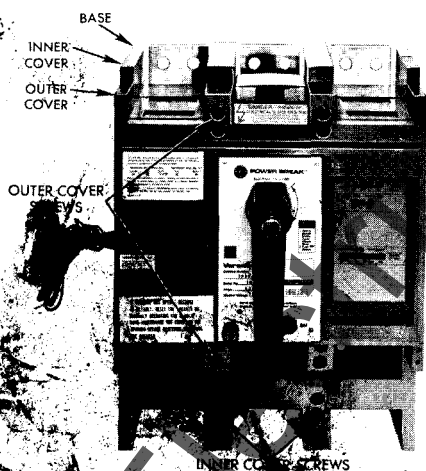

Figure 21. 1600-2000A Frame Electrical Breaker
1. 1600-2000A Frames only—Remove two inner cover mounting screws (See Fig. 21).
- d. 1600A-2000A Frames only—Replace two (2) inner cover mounting screws. See Fig. 21. Tighten to 50-60 inch-pounds torque.